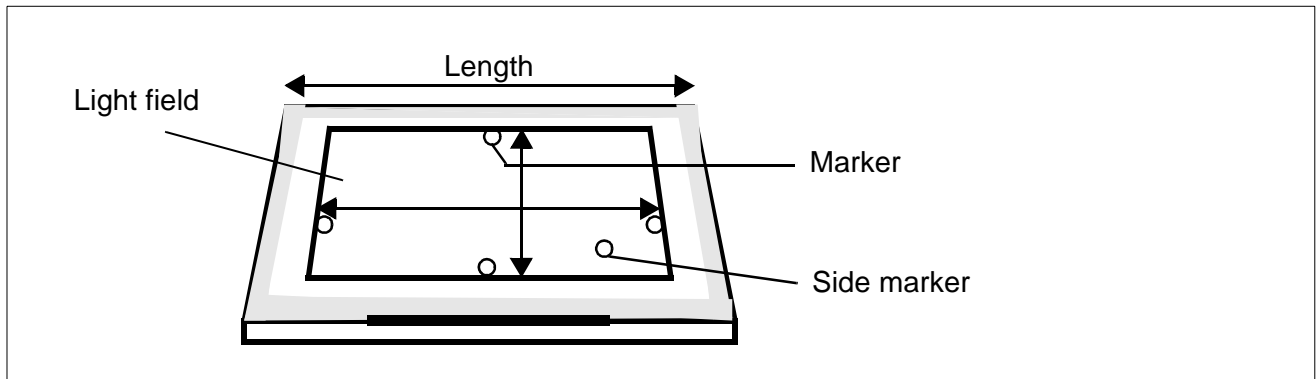

Fig. 1
- Place a radio-opaque marker (e.g. washer, coin) on the cassette as shown in Fig. 1.